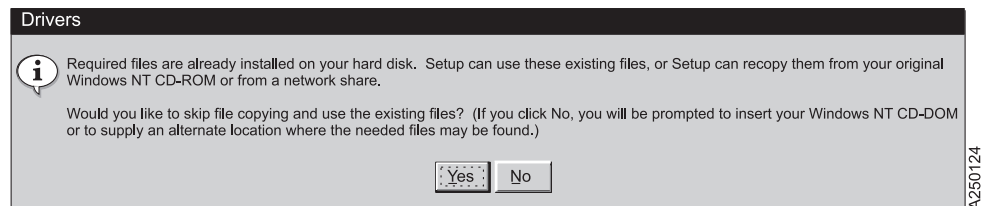

Figure 20. Windows NT Statement
9. If you installed the **Device Driver System Files** component in step 4 on page 197, Windows NT might ask the question shown in Figure 20. Click **Yes**, then skip to step 11. If the system prompts you for *ibmtape.sys*, browse to select the drivers directory (*c:\winnt\system32\drivers*). The system may also prompt you for *ntutil.exe*. Browse to the system32 directory (*c:\winnt\system32*).
10. If you **did not** install the **Device Driver System Files** component in step 4 on page 197, click **No** to the question in Figure 20. The operating system will prompt you for the location of the driver files.